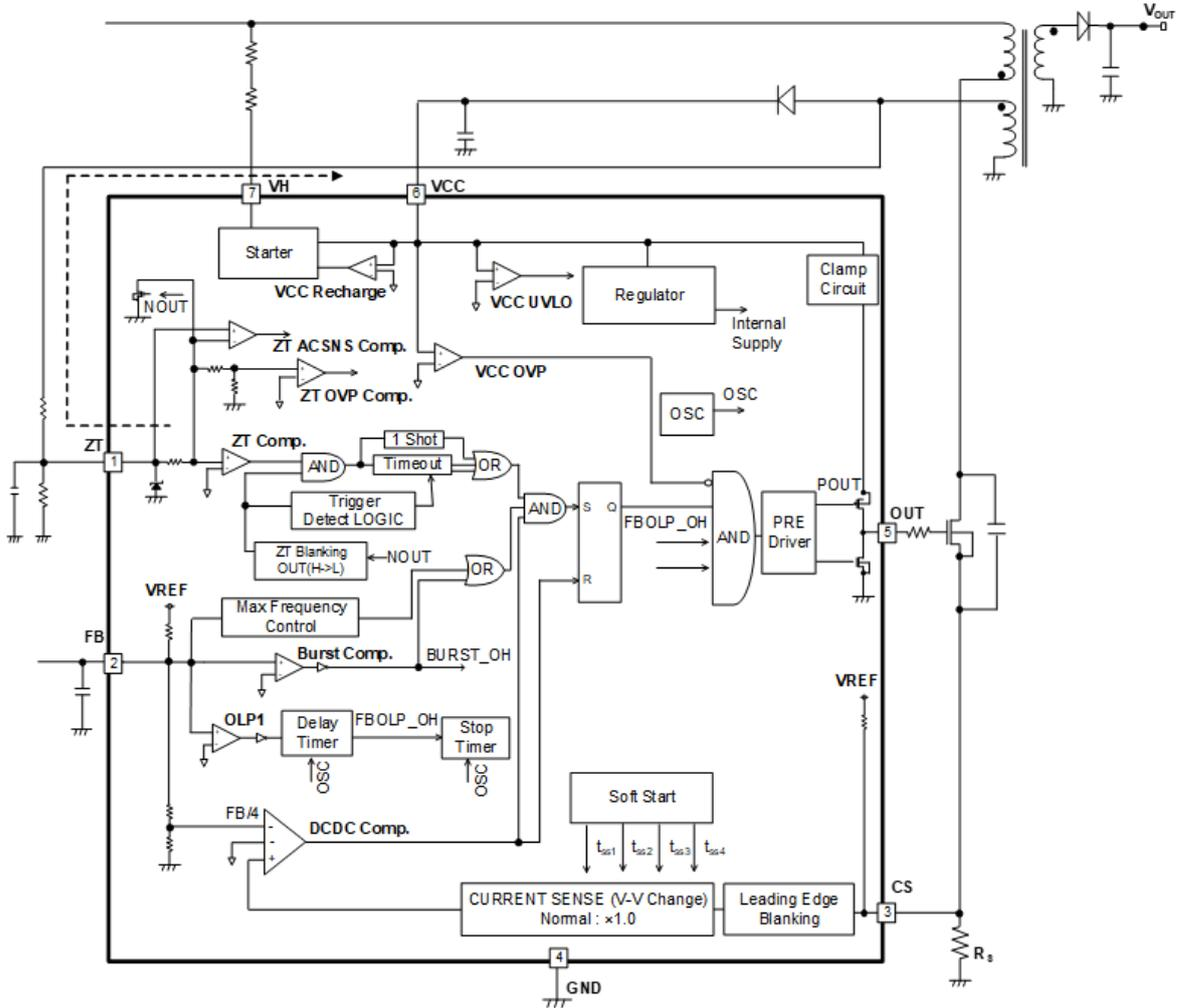
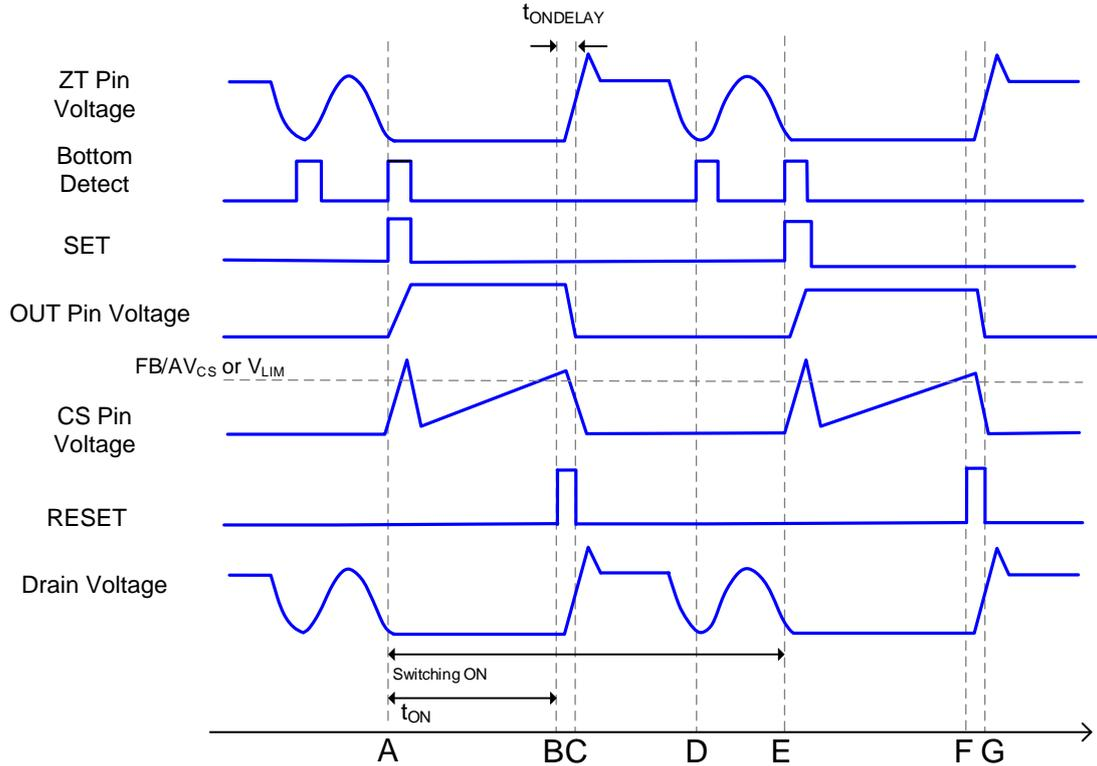

Figure 11. IC Internal QR Operation Block Diagram
Figure 12. QR Basic Operation
This IC operates the PFM (Pulse Frequency Modulation) mode control method. By monitoring the FB pin, the ZT pin, and the CS pin, the optimum system is supplied as a DC/DC. The FB pin and the CS pin control the ON width (turn OFF) of the switching MOSFET, and the ZT pin controls the OFF width (turn ON). IC internal QR operation block diagram and QR basic operation are shown in Figure 11, Figure 12.
- V_{IN} is the VH pin voltage (Figure 11)
- R_S is the sense resistor (Figure 11)